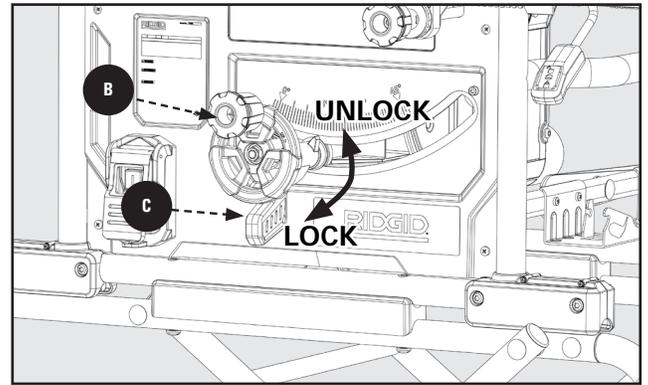

Figure 40
3. To adjust the height of the blade, refer to Figure 40 and do the following:
See Figure 40.